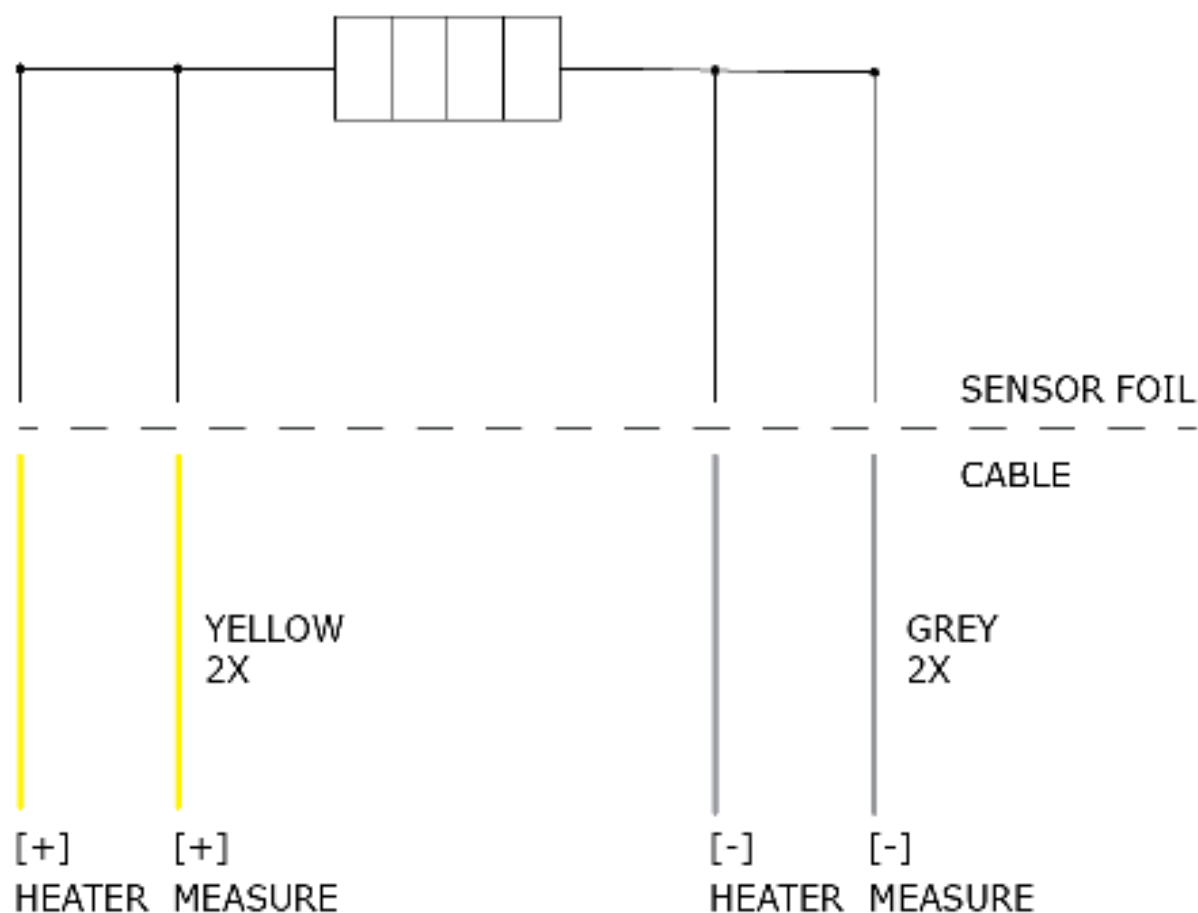

Figure 4.2.1.1 *Electrical diagram of heater foil of the HTR02 series.*
To apply a heat flux, HTR02 should be connected to a power supply. If a variable heat flux is required, the heater is preferably connected to a programmable DC power supply (see Figure 4.2.1.1). The HTR02 electrical connections are explained in Table 4.2.1. When connecting HTR02, always observe the rated heater voltage. Users must make sure that the used power supply is able to source sufficient current.
The heat generated by HTR02 can be accurately determined by measuring the heater voltage and current in a four-point measurement. To this end, HTR02 has a four-wire connection: two yellow wires and two grey wires. A voltmeter should be used to measure the voltage between one of the yellow and one of the grey leads (heater measure [+] and [-] in Figure 4.2.1.1). Working either with formula 2.2.1 or 2.2.2, either
- an ammeter should be used to measure the current through the other yellow and grey leads (heater [+] and heater [-] in Figure 4.2.1.1), using I and V to estimate the heater power, or
- a voltage lower than 24 VDC should be applied to the other yellow and grey leads (heater [+] and heater [-] in Figure 4.2.1.1), using V and R to estimate the heater power
Suggested HTR02 connections are shown in Figure 4.2.1. The heater serial number and electrical resistance R are shown on the HTR02 product certificate and on the label at the end of the cable.